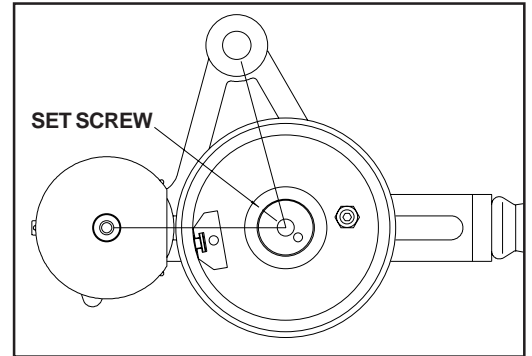

FIGURE 41
- 4- If the Brass Tip Set Screw is not pointing in the direction shown in Figure 41, rotate the Index Ring in a Counter-Clock-wise Direction until it points in the direction shown.